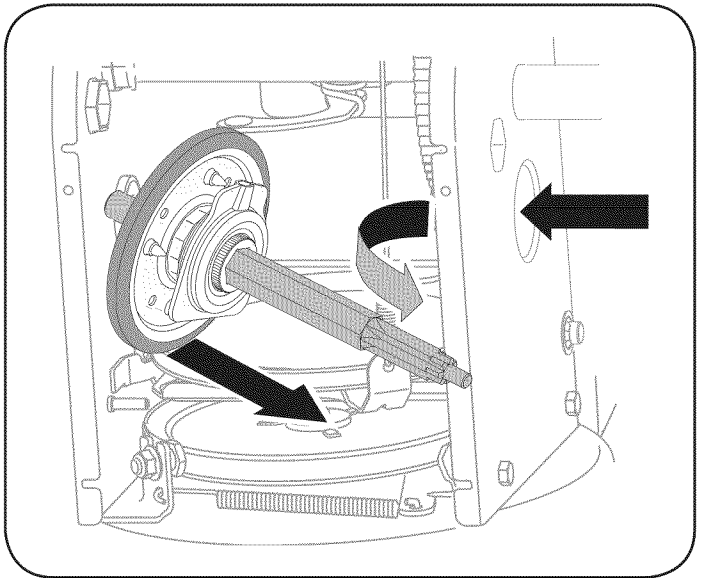

Figure 36
7. Carefully position the hex shaft downward and to the left before carefully sliding the friction wheel assembly off the shaft. See Figure 36.